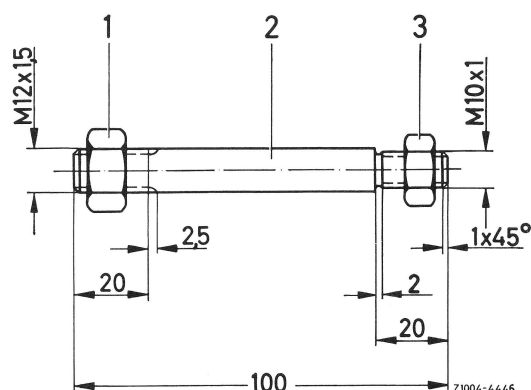

Fig. 2
Threaded bolt acc. to Fig. 2 self-made
2 Screw self-made threaded bolt (2) into a tapped hole on crankshaft flange and lock with hex. nut (Fig. 2).